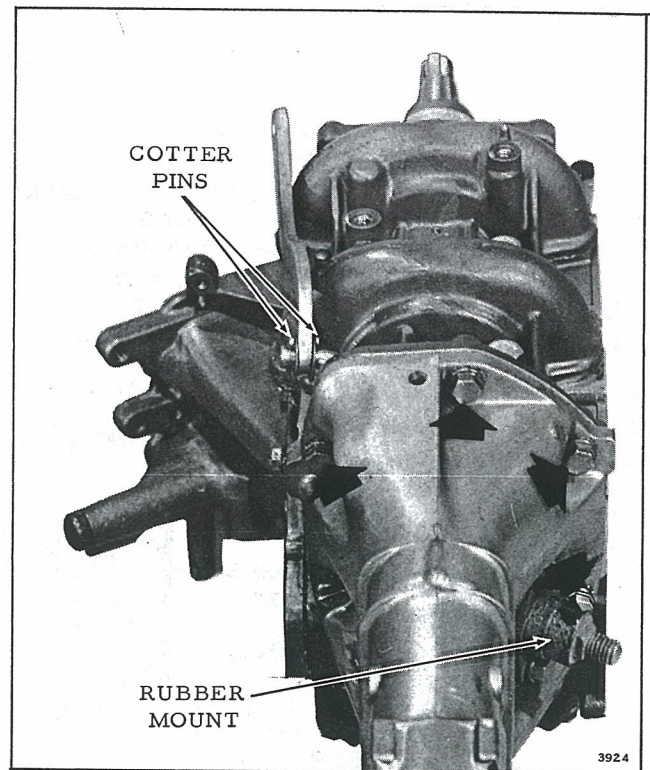

Figure 5-10. Exhaust Housing
i. Remove the starboard side upper rubber mount and the two cotter pins attaching the clevis to shift rod link to the shift rod. Remove seven screws to detach exhaust housing from power head. See Figure 5-10, showing four of the seven attaching screws and the two cotter pins.